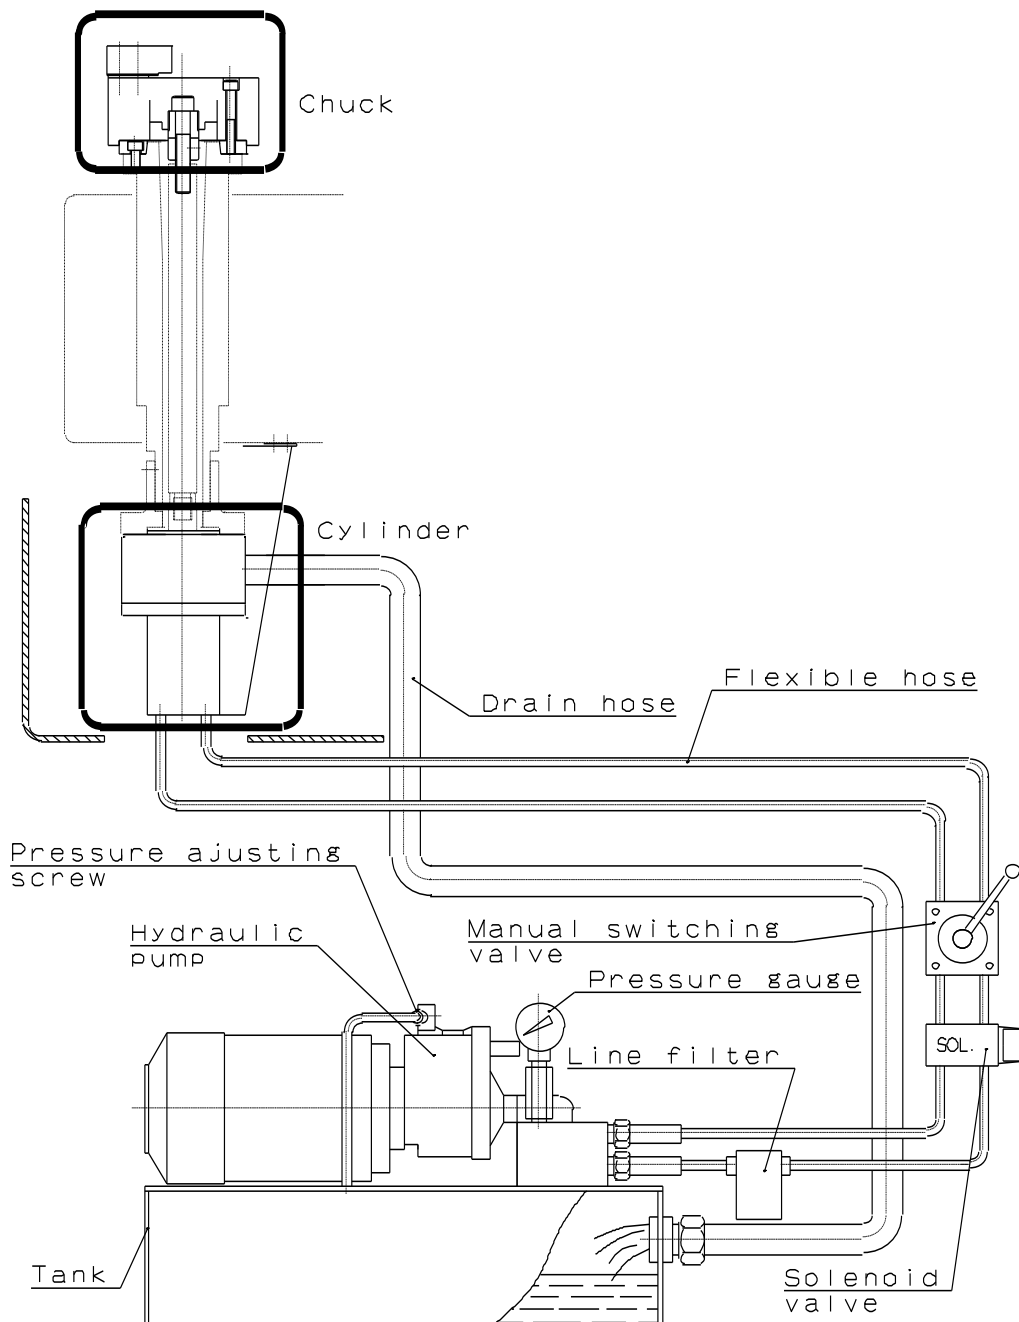

Fig.17
- **The end of the hose is physically above the oil level. (Refer to Fig.17)**